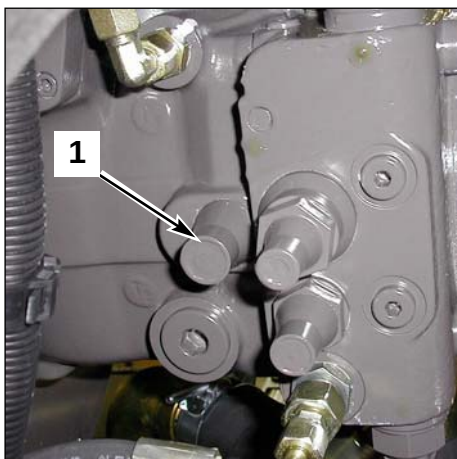

Fig. 2 Transfer movement pump
- 5- If the regime of the engine is too high, turn the screw (1 fig. 2) clockwise in order to reduce the number of rpm.